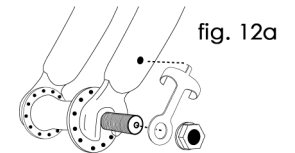

fig. 12a
Secondary retention devices fall into three basic categories (see figs. 12a, b & c):
- The clip-on type is a part which the manufacturer adds to the front wheel hub or front fork (fig. 12a).